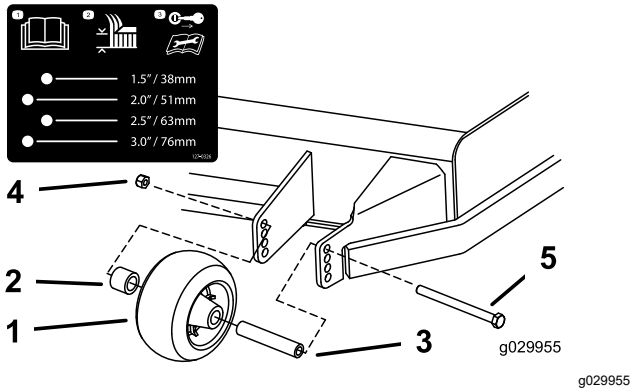
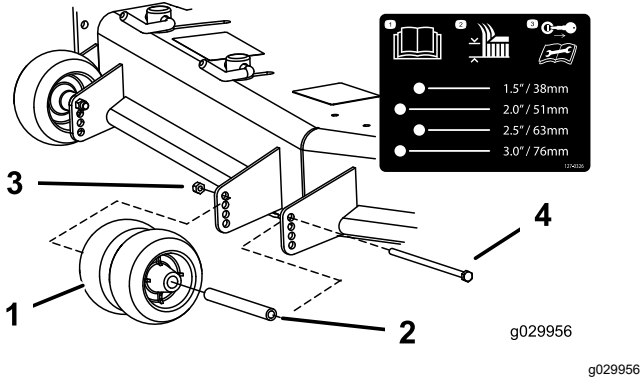
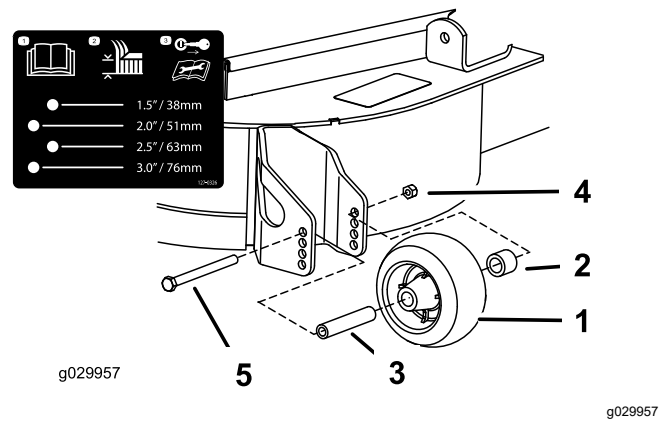

Figure 34
Figure 35
Figure 36
3. Adjust the anti-scalp rollers as shown in Figure 34, Figure 35, and Figure 36.